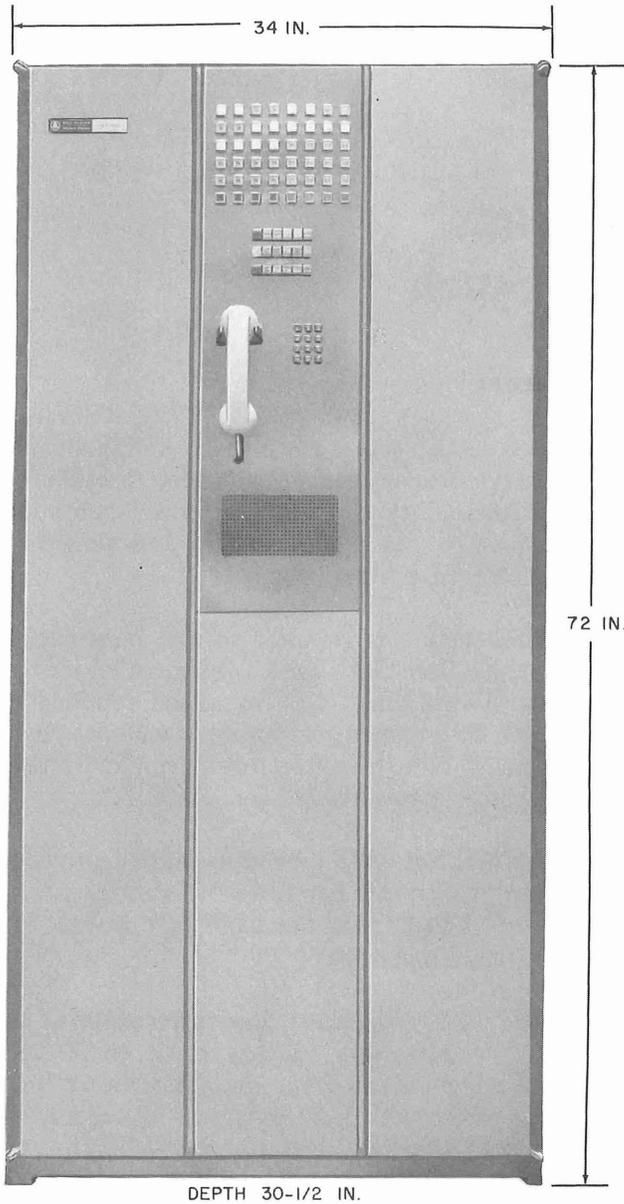

Fig. 1—Data Set 103E-Type Data Station
1.01 This section covers the physical and functional description as well as operating procedures for Data Set 103E-type when used for a data station arrangement on customer premises and contained in a KS-20093-L1 cabinet (Fig. 1).